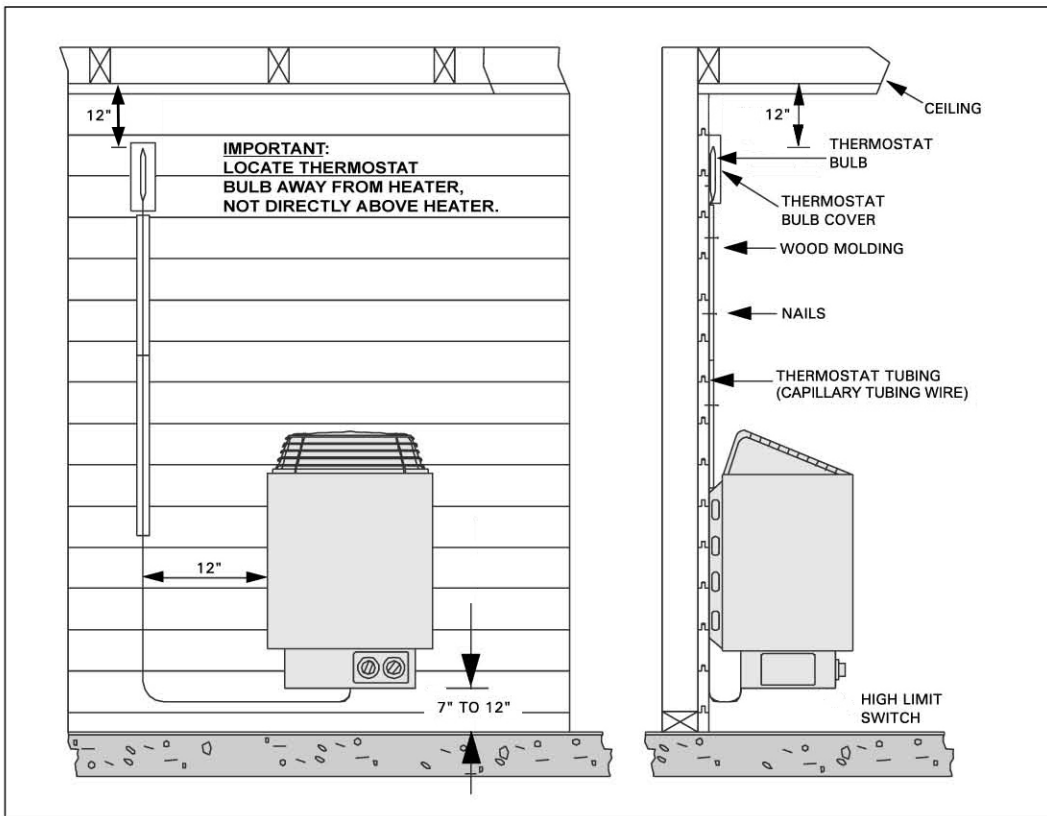

Figure 5a.
3. FLB style heaters have a thermostatic sensor bulb (located in the junction box of the heater) that must be run up the face of the interior Sauna room wall. See figure 5a for proper thermostatic bulb placement. **DO NOT MOUNT SENSOR BULB DIRECTLY ABOVE THE HEATER** or wall will not get hot enough. Sensor bulb mounts in metal bulb holder that comes with heater.